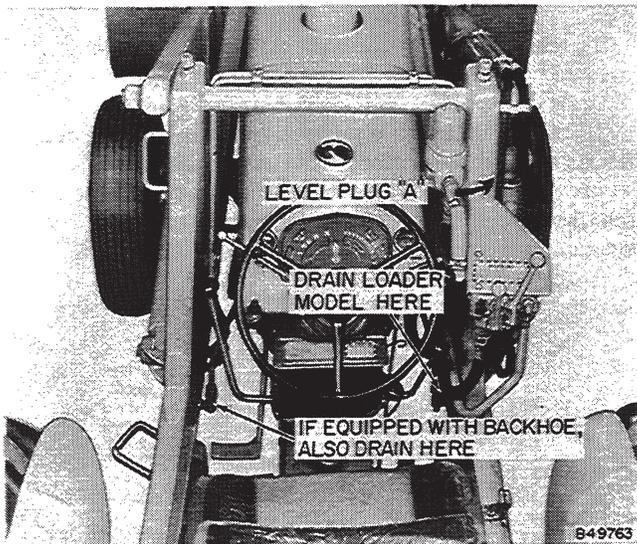

Figure 6 - Reservoir Drain(s)
3. ON LOADER ONLY MODELS — Remove the pipe plug from the elbow at the bottom of the right hand reservoir and allow the oil to drain into a suitable container, see Figure 6.
ON LOADER-BACKHOE MODELS — Remove the plugs from the elbows at the bottom of both the right hand and left hand reservoirs and allow the oil to drain into a suitable container, see Figure 6.